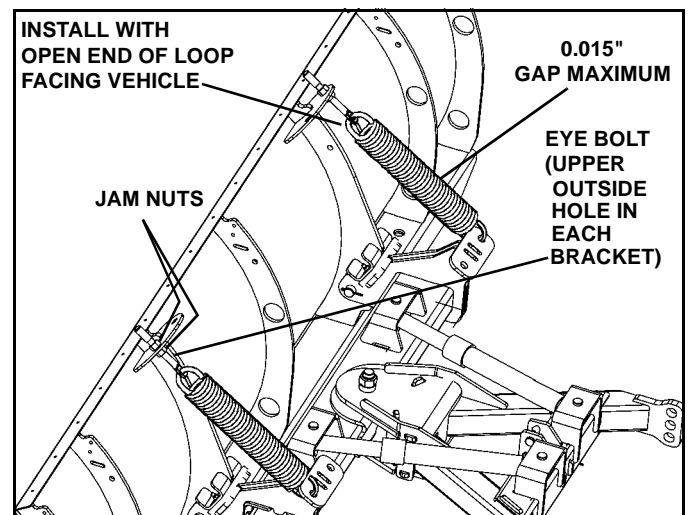

Figure 2-8
2. Insure that blade springs are installed with open end of top loop facing vehicle. (See Figure 2-8)